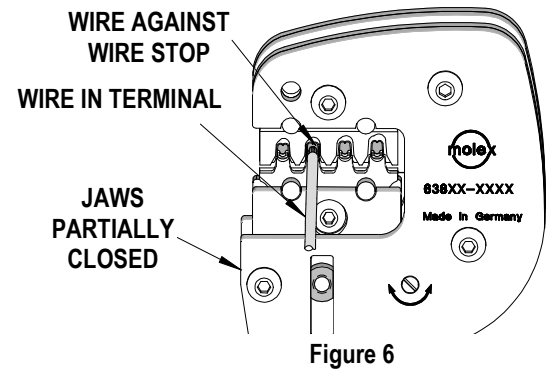

Figure 6
9. Gently touch the wire stop with the end of the wire. See Figure 6 and 7.